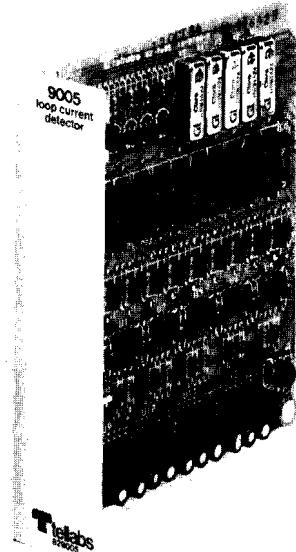

figure 1. 9005 Loop Current Detector module
1.01 The Tellabs 9005 Loop Current Detector module (figure 1) detects loop current in up to five separate 2wire loops and provides relay-contact closures as indications of loop current flow. The 9005's five current detectors can be individually switch-optioned to detect current flow in one or both directions. Also, the five relays associated with the current detectors can be independently switch-optioned to detect or ignore dial pulses. When optioned to detect dial pulses, the circuits on the 9005 introduce negligible dial-pulse distortion. An additional switch option conditions all five circuits on the module to provide ground outputs upon contact closure, if desired.